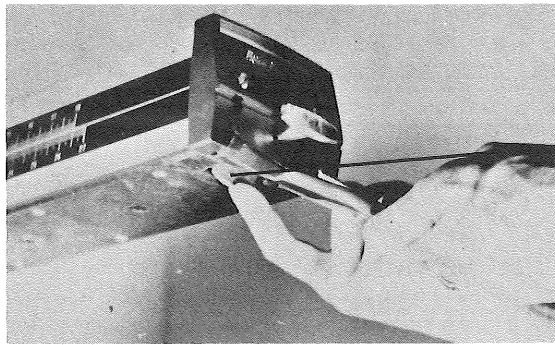

FIG. 16
2. Set the arm at 0 degrees on the mitre scale, making certain the column is seated in the detent. Tighten the arm (brake) lock. The brake action should feel tight and secure whereas you must push on the handle solidly with the palm of the hand. If loose adjust the arm lock adjusting wheel under the front of the arm by turning in a counter-clockwise direction. Fig. 16.